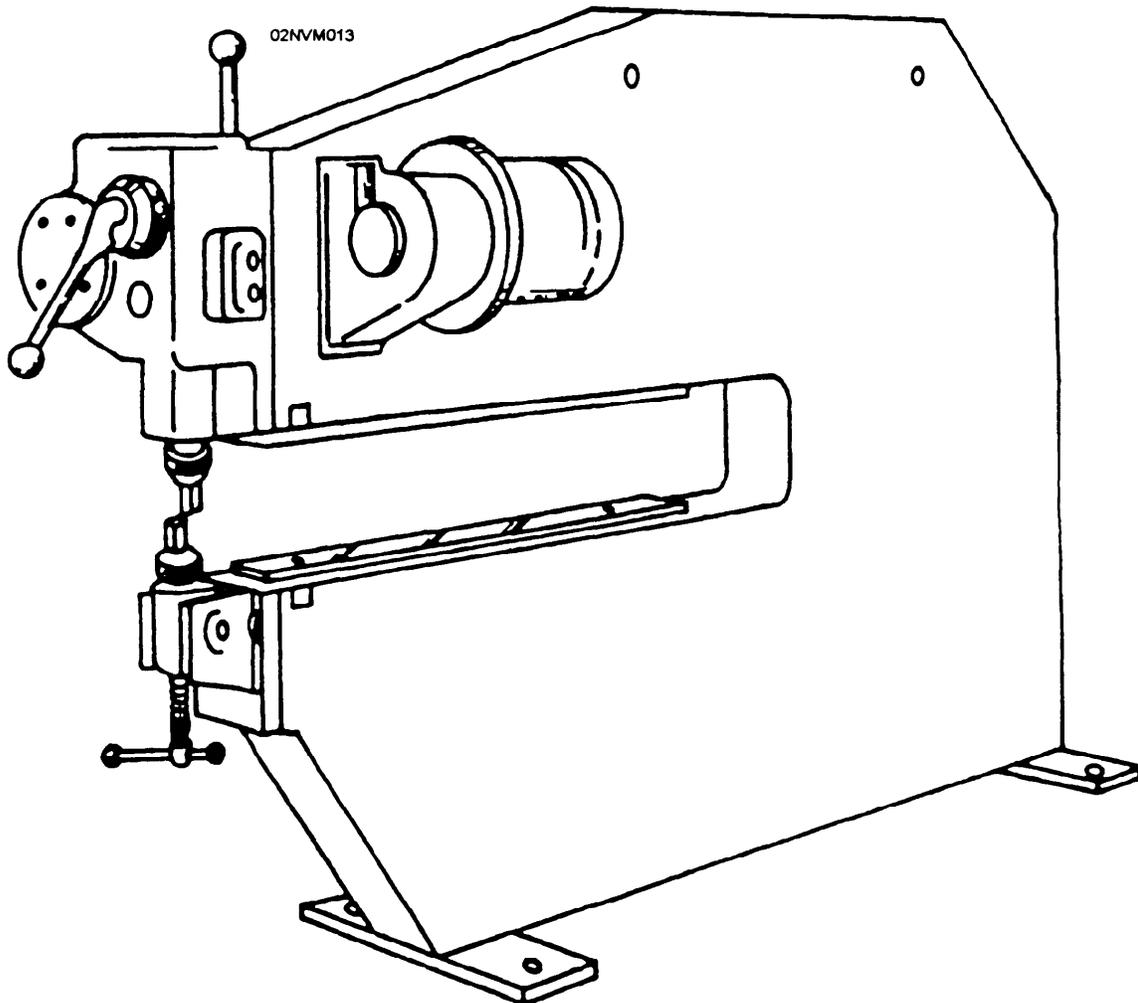

Figure 13-33.—Universal Pullmax machine.
**GENERAL SPECIFICATIONS.**—Most shipfitter shops are equipped with machines capable of cutting plate up to 3/8 inch thick, as shown in figure 13-33. As in all machines, the thickness capacity is given for mild steel. If using alloy steel, the thickness